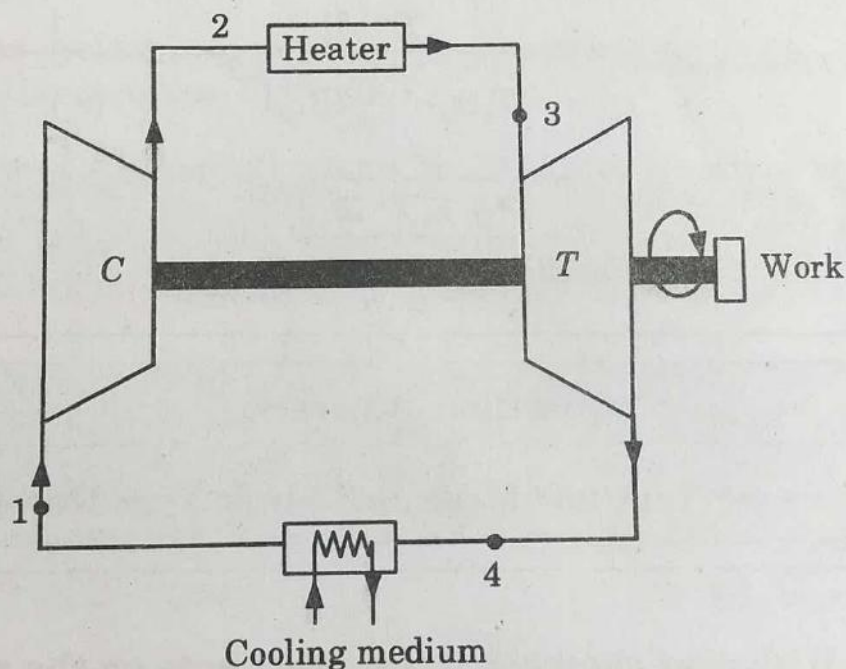

Fig. 5.3.2. Closed cycle gas turbine.
1. As shown in Fig. 5.3.2 open cycle and closed cycle are same in all manners except in closed cycle after the exhaust air is send to a cooling medium so that it can be further used by the compressor.